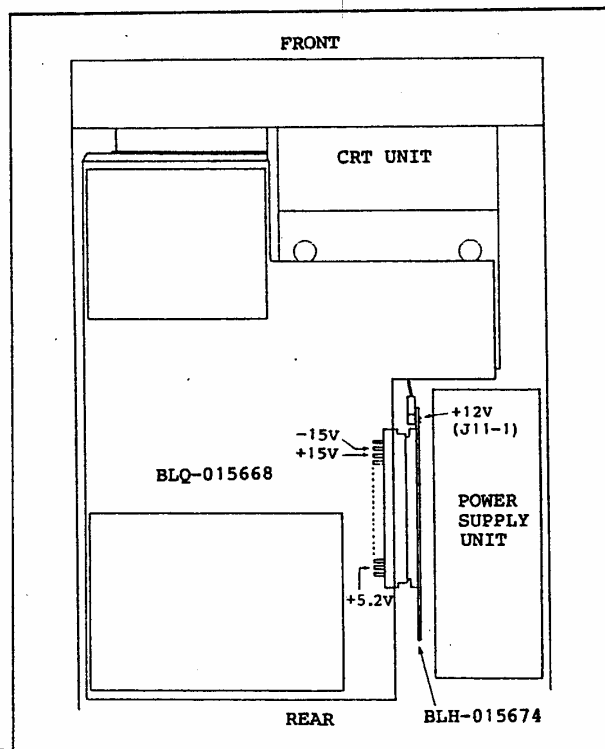

Figure 6-1 Voltage Check Points
- ② Check that the voltage check points (+15V, -15V, +5.2V and +12V) shown in Figure 6-1 are within the following tolerances: